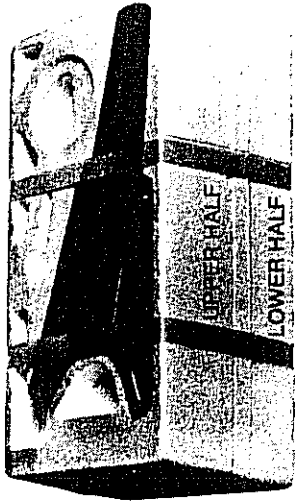

FIGURE 1.
1. Remove polystyrene container from shipping carton and place on bench — Base side up — as shown in Figure 1.